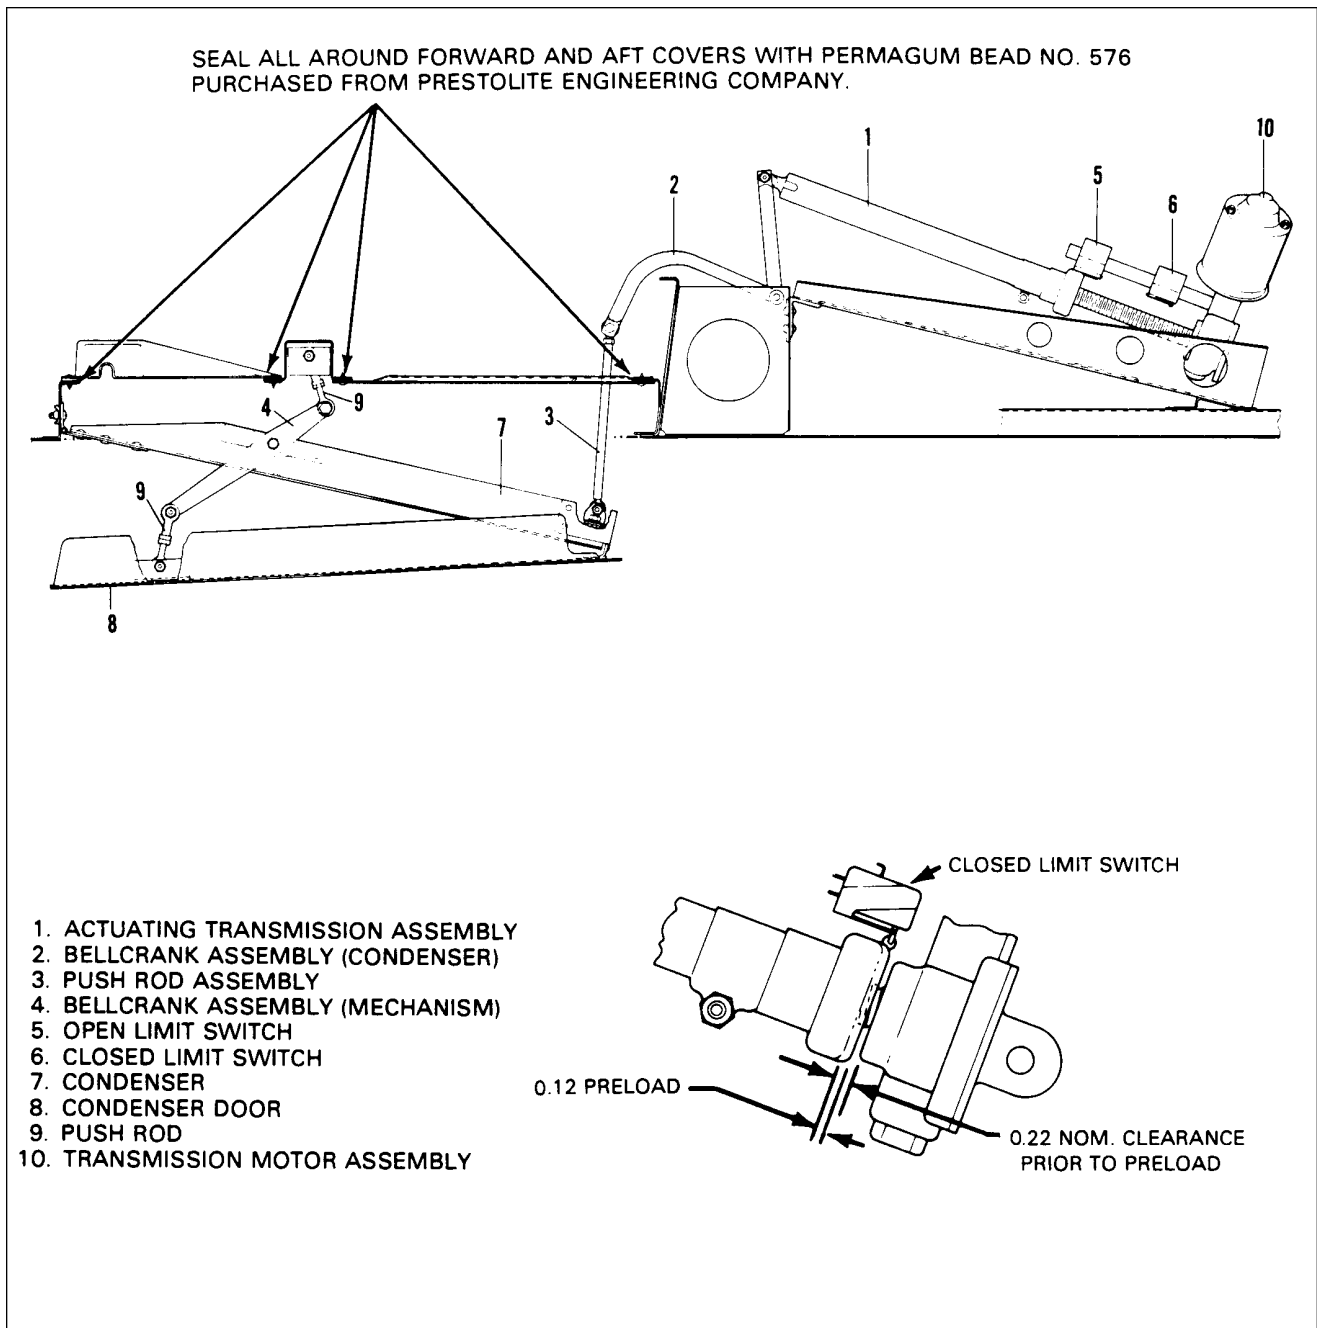

Figure 21-15. Condenser Air Scoop Installation
- (6) Seal around forward cover panel (and aft cover panel if removed) with Permagum Bead no. 576 purchased from Prestolite Engineering Company. (See Figure 21-15.)
The actuator is on a bracket mounted between two bulkheads in tail cone. It is coupled to the condenser assembly through a bellcrank mounted to a bracket on bulkhead aft of condenser. Actuator travel is controlled by two limit switches. Both up and down switches are on the actuator. Refer to Figure 21-15 for switch locations.
d. Condenser Assembly Rigging Instructions. (Refer to Figure 21-15.)